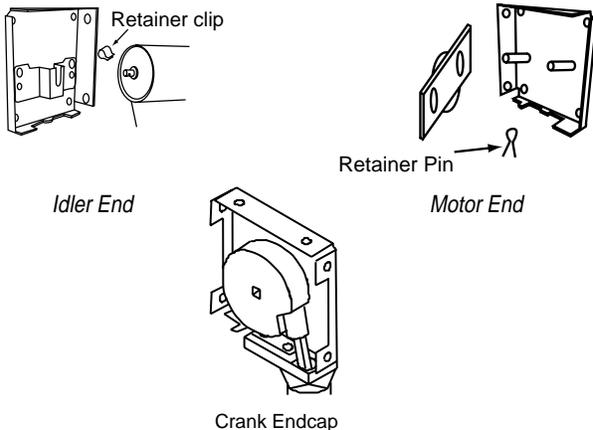

Figure 2
- ③ Remove spring roller from its headbox. The one-notch spring roller is pre-tensioned and the dog is locked in the notch.
- ④ Remove roller/motor assembly from its headbox by removing the black plastic retainer clip at the idler end and the retainer pins from the motor end. Take the idler end out of its bracket, then slide the motor end off the motor studs on the endcap (see Fig. 2). Keep all retainer clips and pins.